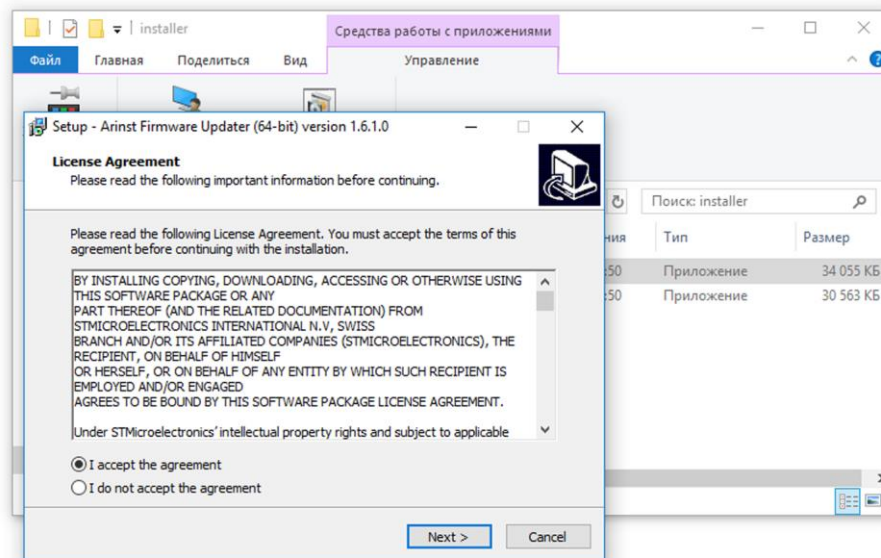

Figure A1.5 - License agreement
1.5. Carefully read the terms of the license agreement. To further install the application, accept the terms of the license agreement and click the **Next>** button (Figure A1.5).